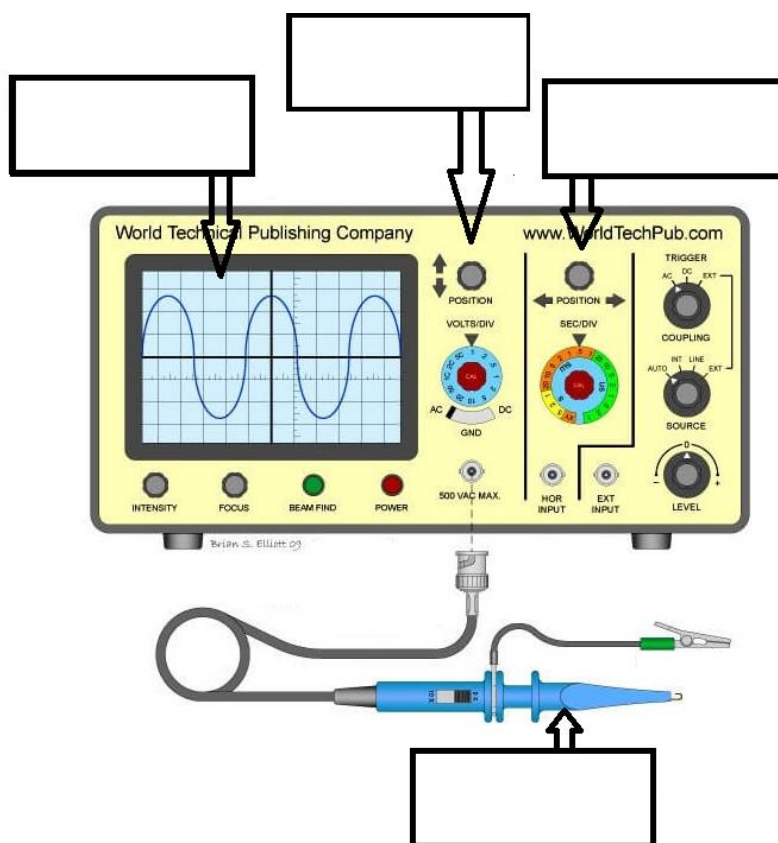

Figure 11 – Oscilloscope
- c) Label important features of the oscilloscope given in Figure 11.